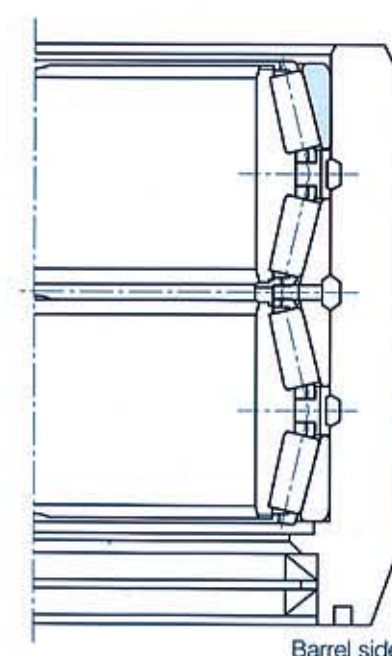

Fig. 3.5
- (14) Apply grease over all the surfaces of the single-cup with matching symbols D-E, set the position of the load position number, and insert the cup with care. (**Fig. 3.5**)